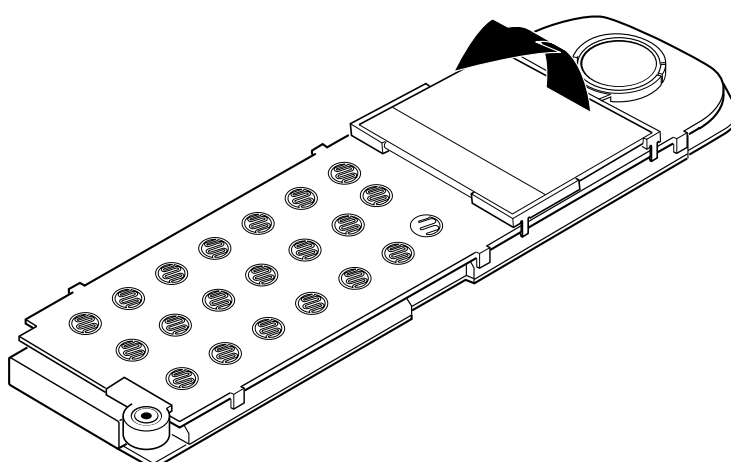

Figure 12: LCD removal (2)
12. (Figure 12) Tip the LCD forward to allow the removal of the LCD/earpiece holder.